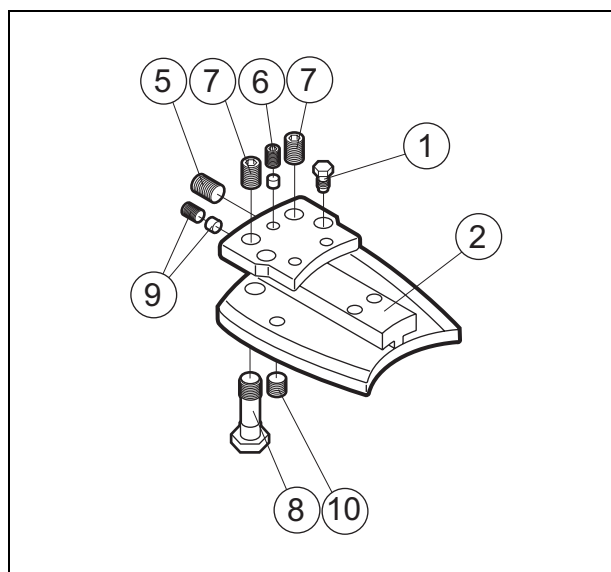

Fig. 49 Bar holder
2. Loosen the set screw (6), $W = 4$ mm, and replace the 20mm long set screw (5) with a 40 mm long set screw. See Fig. 49.
3. Tighten the set screw (5) until the chain is properly tensioned. See Fig. 49.
4. Tighten the set screw (6). See Fig. 49.
5. Lock the bar holder (2) with the two set screws (10), $W = 6$ mm. See Fig. 49.
7. When switching back to the automatic tensioner, the 40mm long set screw has to be replaced with the 20 mm long set screw and the set screws (10) have to be loosened so that the upper end of the screw is approx. 1.5 mm below the surface of the bar holder.